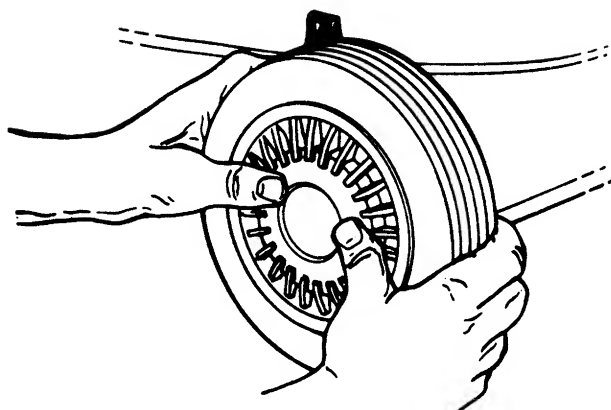

FIGURE 8.—Optional Hub Caps
2. If your mower is equipped with 2" wide tires, place hub caps in position against the inner hub of the wheel. Press firmly around the center portion of hub cap in a circular motion, similar to installing a lid on a round, plastic container. See figure 8. The hub caps are flexible and will snap over the 3-1/2" diameter wheel hubs.